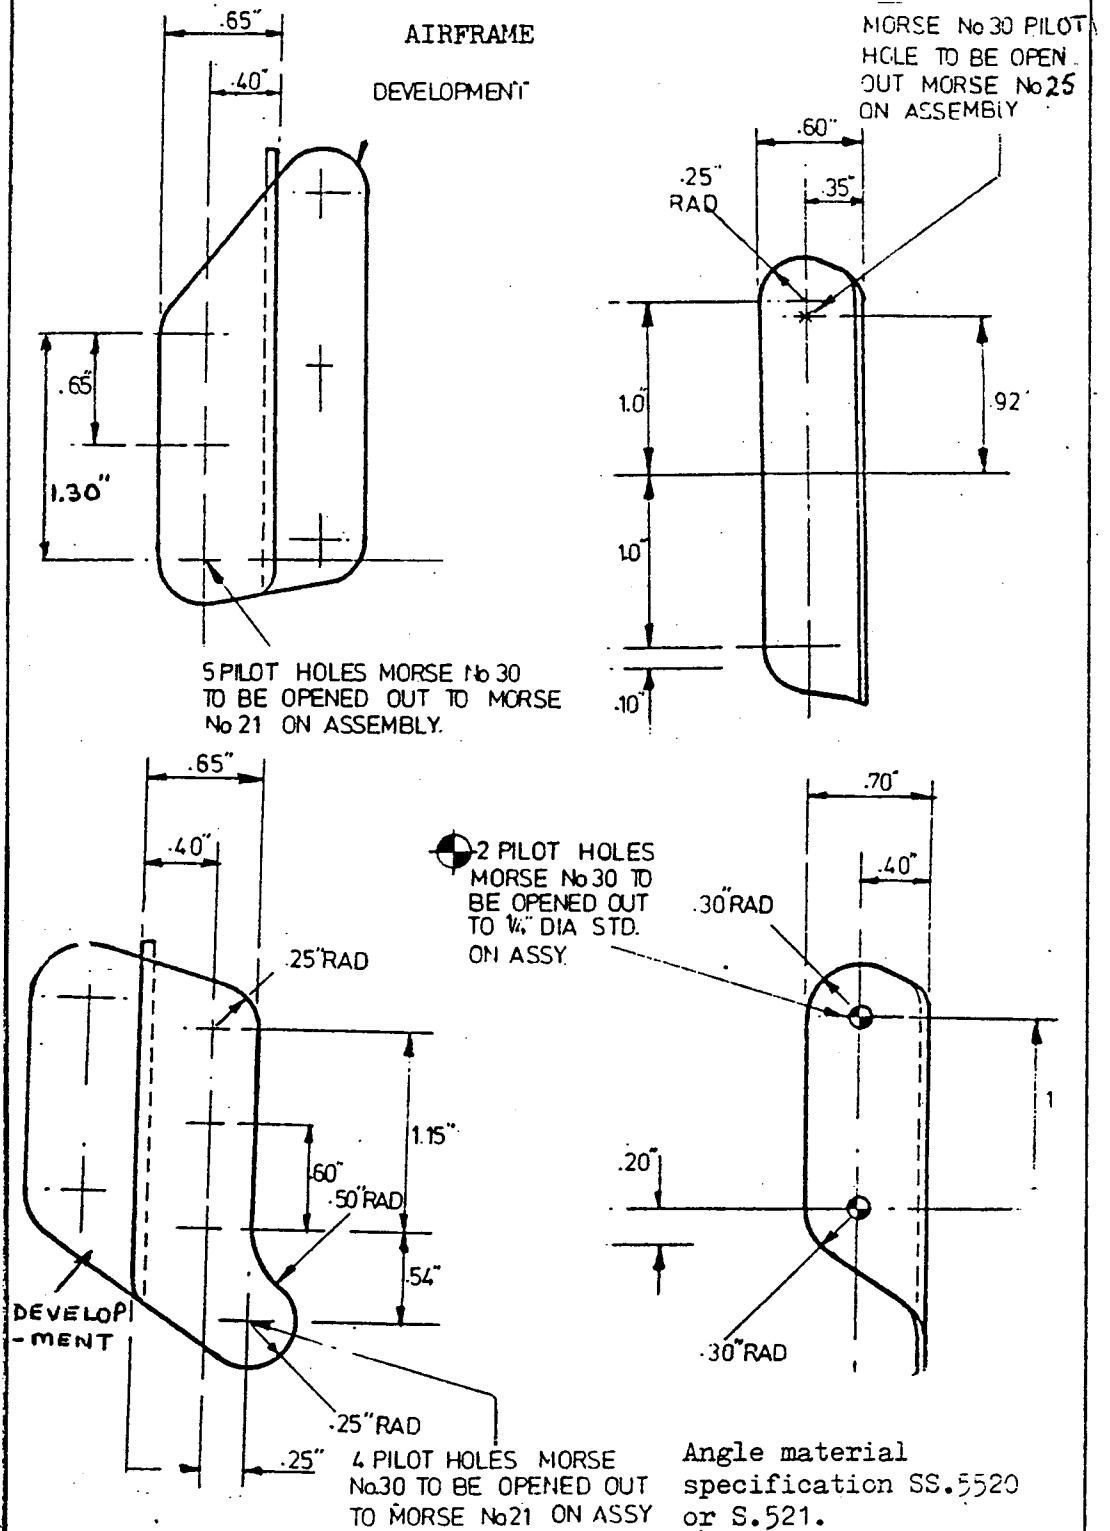

FIG 1
3.2 Forward angle and bracket. Repair in accordance with Fig 1 and 2.